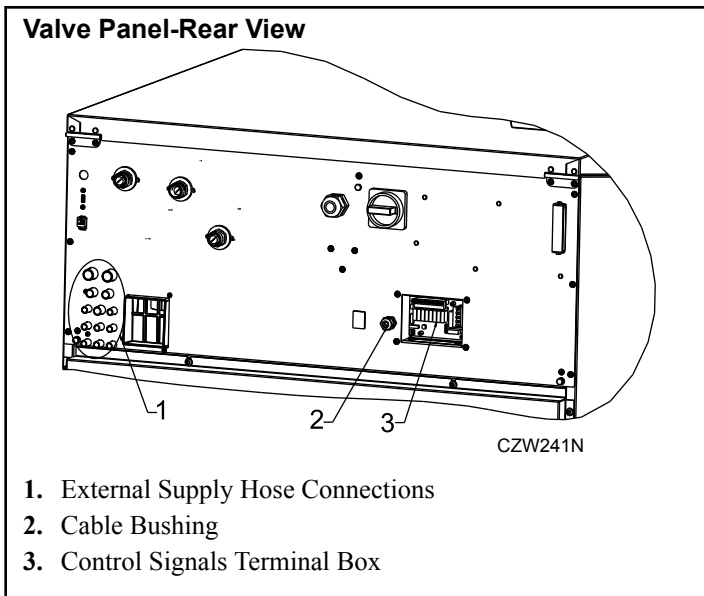

Figure 36
1. Facing the rear of the machine, locate the eight (8) 5/16 inch [8 mm] supply hose connections found on the left-hand side of the valve panel. Refer to *Figure 36*.
The electric connection for supply control signals (if used) is available on the rear panel. Refer to *Figure 36*. At the terminal box, there is a label for electric connection.
This function can be activated by an external contact which is connected between the pins \uparrow and \downarrow . Refer to *Figure 36*. Such connection is possible only with machines which had been ordered with the "Heating Delay / Waiting for Detergent" option.